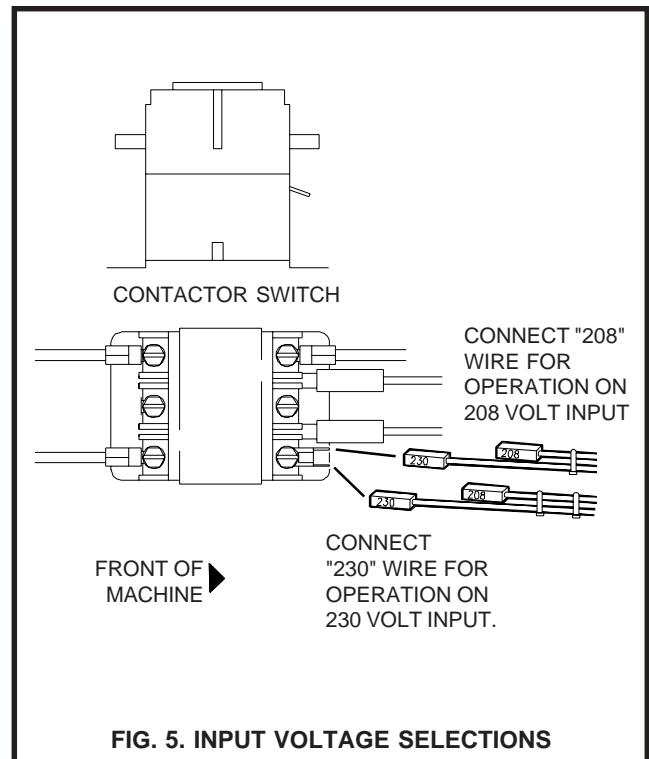

FIG. 5. INPUT VOLTAGE SELECTIONS
2. Locate the contactor switch, which is mounted on top of the main power transformer (See Figure 5).